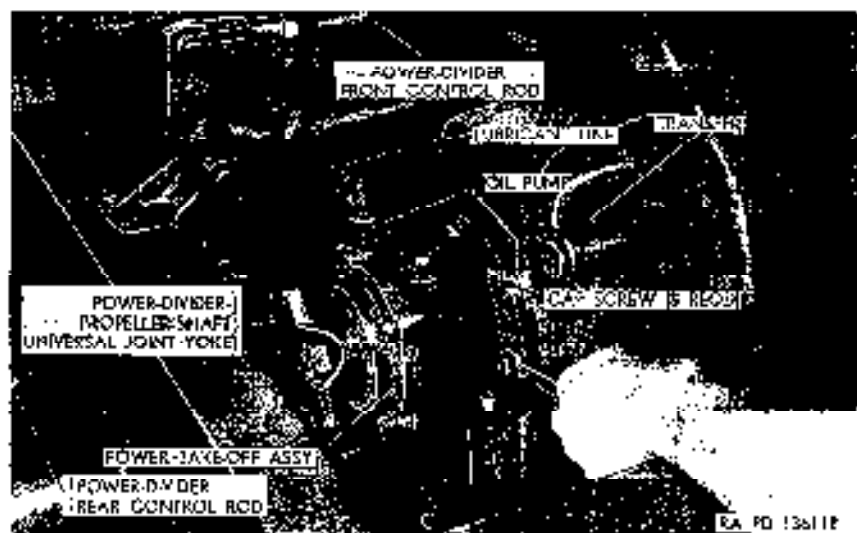

Figure 205. Power-take-off mounted on transfer. M62 only.
- (11) Position hydraulic jack (# g. 90) with transfer flange under transfer, and raise jack until weight of transfer is just supported by jack (fig. 205).
- (12) Remove three cap screws securing transfer to right mounting bracket (# g. 203), and remove four cap screws securing transfer to left mounting bracket.
- (1) Position universal joint journal adapter (fig. 205) on cup screws at rear-output shaft companion flange, install eight nuts and washers on cup screws, and tighten nuts.
- (3) Turn jack until front of transfer is toward front of truck, raise jack, and align mounting screw bosses (fig. 205) on left and right sides of transfer case with left and right transfer mounting brackets.
- (4) Install three cap screws in holes in right mounting bracket and mounting screw boss, and install four cap screws in holes in left mounting bracket and mounting screw boss. Tighten cap screws. Lower jack and remove from underneath truck.
(1) Perform b(1), (2), and (3) above.
(2) Disconnect power-take-off to-power-divider propeller shaft at universal joint yoke (fig. 205) on power-take-off (par. 211).
(1) Install power-take-off (par. 209).
(2) Perform c(1) through (4) above.
(3) Connect power-take-off-to-power-divider propeller shaft at universal joint yoke (fig. 205) on power-take-off (par. 211).
(4) Perform c(5) through (17) above.